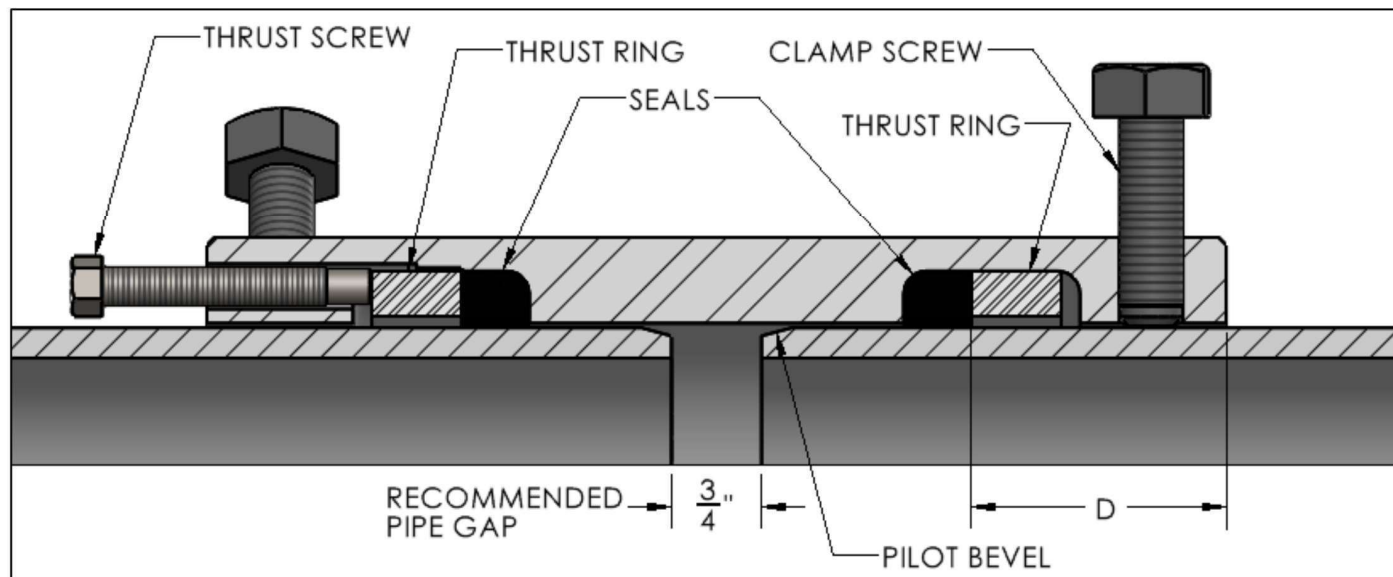

Figure 1
3. For badly misaligned or out-of-round pipe, it is helpful to grind a pilot bevel with a generous taper on the pipe. This will eliminate the risk of damage to the seals while slipping the PLIDCO Weld+Ends over the end of the pipe. (See Figure 1).
1. Measure and record dimension "D", as shown in Figure 1. This will be needed later if the PLIDCO Weld+Ends is welded to the pipe.